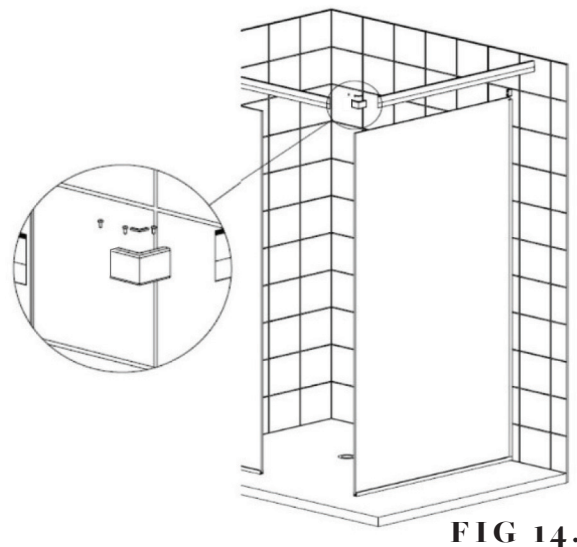

FIG 14.
- With corner showers, use the grey corner block in the mitred corner (**FIG 14**) to support the join. This should press into the mitred corner, and be a tight snug fit.